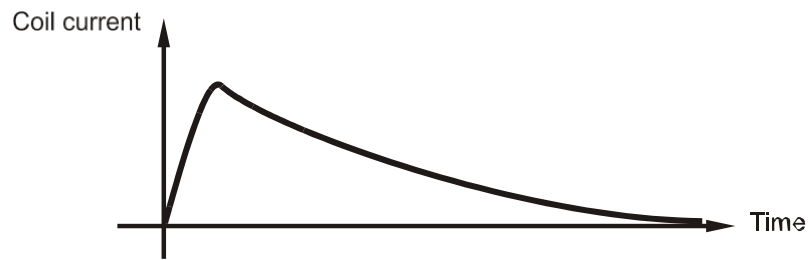

Fig. 3. Monophasic waveform.
- **Monophasic pulse** – is a pulse when current in the coil flows in one direction increasing sinusoidally and decreasing exponentially (Fig. 3 Fig. 3).